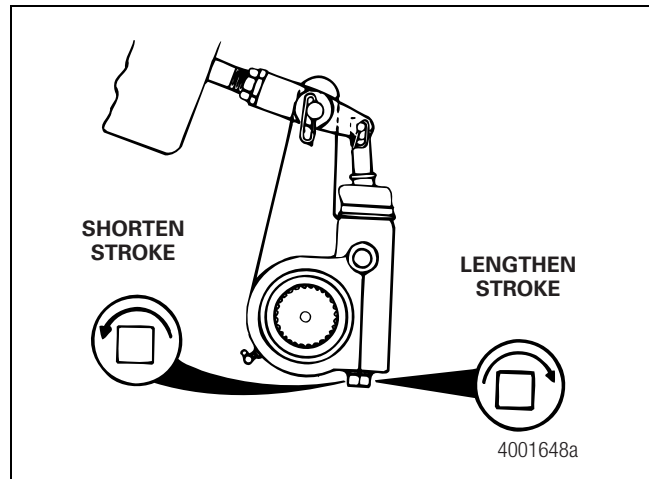

Figure 11.10
1. To adjust the stroke, turn the adjusting nut 1/8 turn in the direction shown in Figure 11.10. Check the stroke again. Continue to measure and adjust the stroke until it is adjusted correctly.